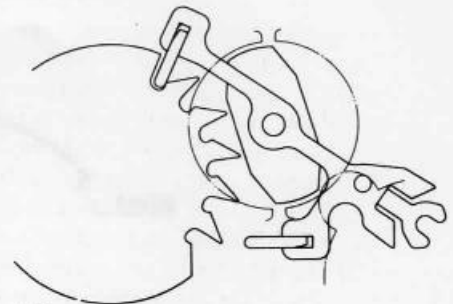

Fig. 4-5
- 2) Be sure the jewelled pallet fork is on the driving side (the side where the fork slot of the pallet is to the entry jewel's Fig. 4-5).